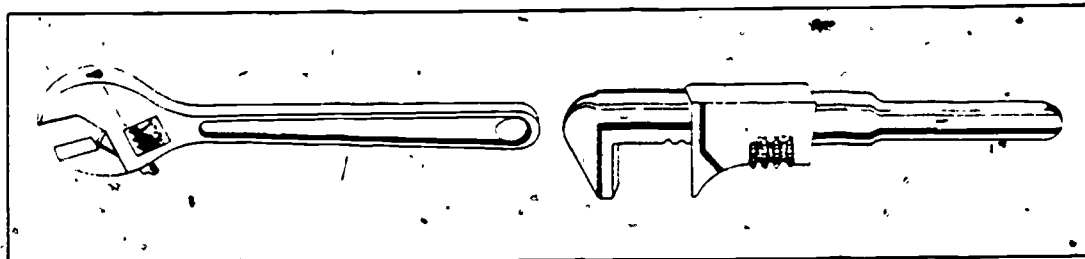
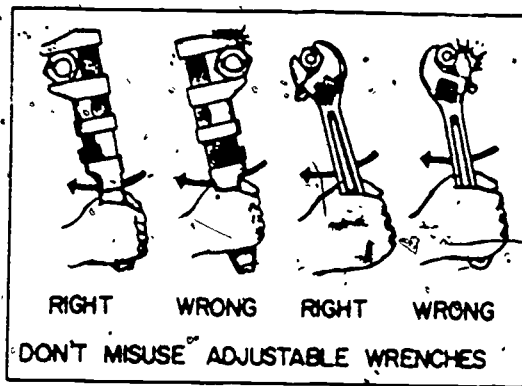

Figure 3-3. Adjustable jaw wrenches.
Figure 3-4 Correct and incorrect ways to use an adjustable jaw wrench.
**Adjustable jaw wrenches.** Adjustable jaw wrenches, like those shown in figure 3-3, have jaws that can be adjusted to fit square stock or the flat surfaces of a bolthead or nut. These wrenches should always be snugly adjusted to fit the work in order to prevent slippage and injury to the operator. An improperly fitted wrench not only rounds off the corners of a bolt or nut but also strains the jaws of the wrench. Adjustable jaw wrenches should be used as shown in figure 3-4. Undue strain on the wrenches is likely to crack the movable jaws or damage the adjusting screw. Keep the wrench clean and the movable parts oiled.